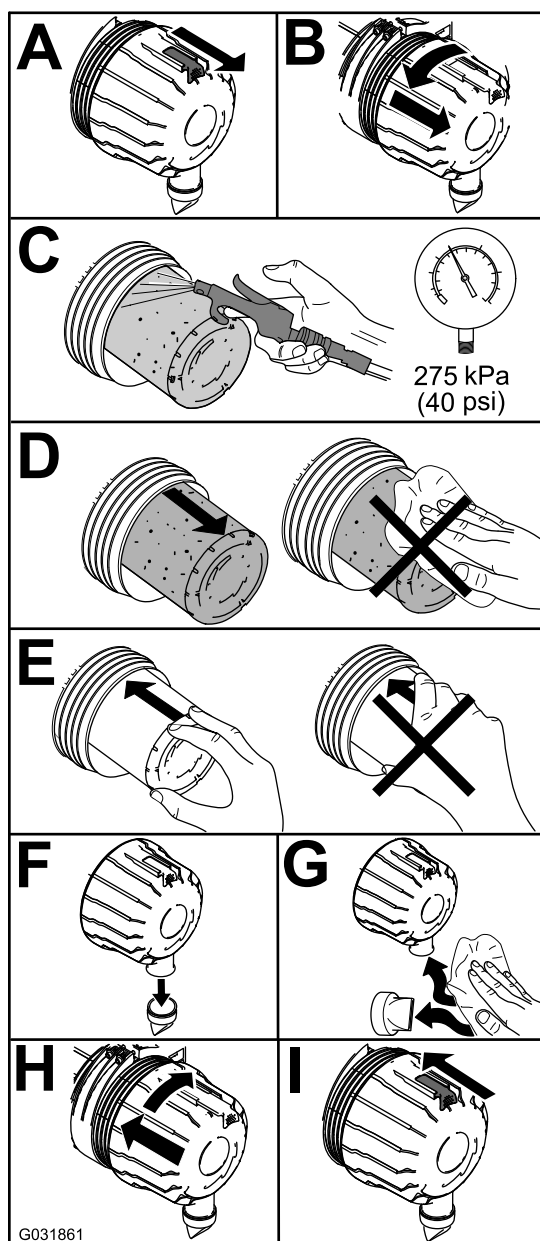

Figure 91
1. Replace the air cleaner (Figure 91).